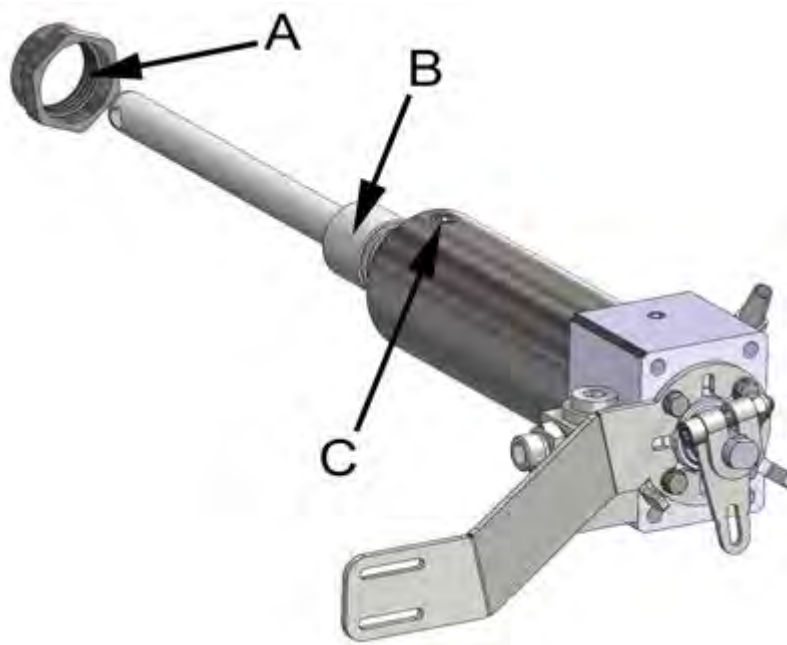
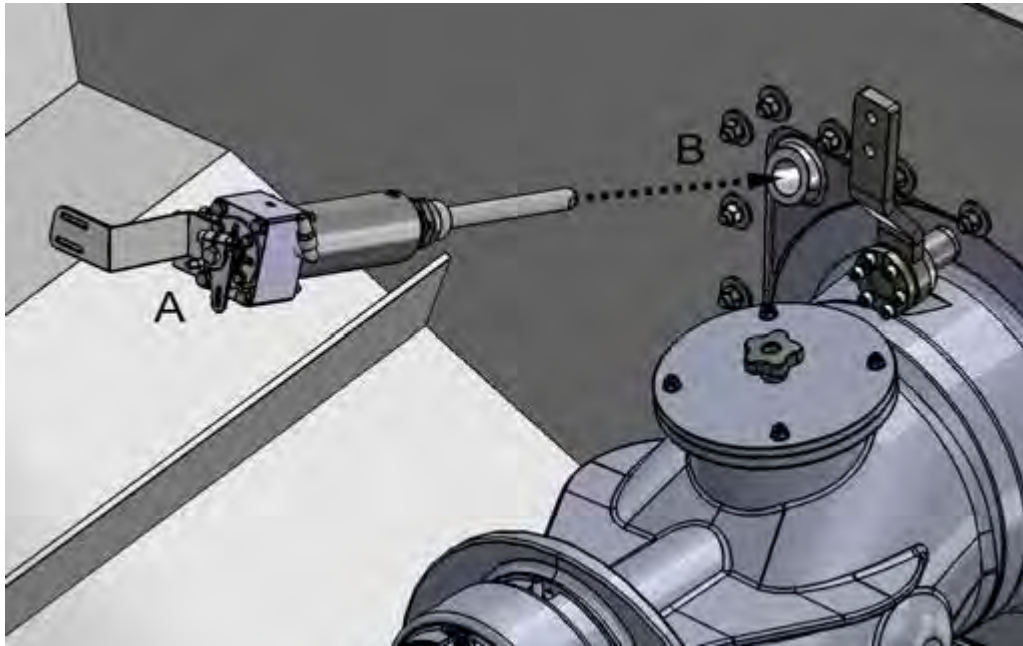
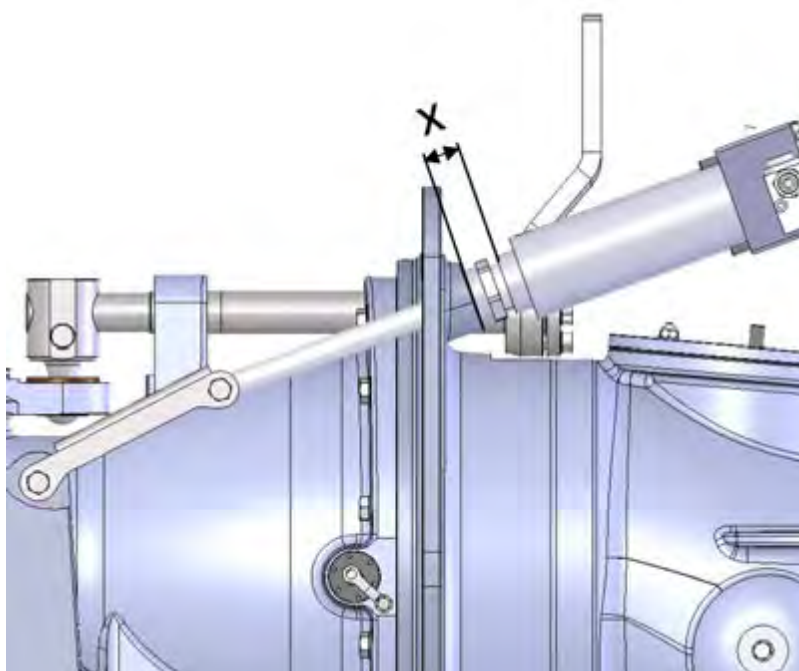

Figure 26. Hydraulic cylinder nut
Figure 27. Attaching the hydraulic cylinder
Figure 29. Installation distance of the hydraulic cylinder
1. Treat the threads of the hydraulic cylinder nut (figure 26, point A) with sealing compound (e.g. Sikaflex 291i).
2. Screw the nut all the way down on the thread at the end of the cylinder pipe (figure 26, point B).
The hydraulic cylinder (figure 27, point A) must be screwed far enough onto the threads to reach the correct measurement ($X=31$ mm, figure 29). The correct position of the hydraulic cylinder is determined by the plugs in the cylinder pipe (figure 26, point C), which must face upwards.